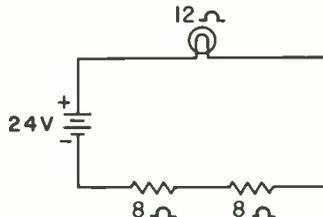

Fig. 33
- (1) 18 Ω .
- (2) 9 Ω .
- (3) 4 Ω .
- (4) 3 Ω .
6. What is the total resistance in the circuit of Fig. 33?